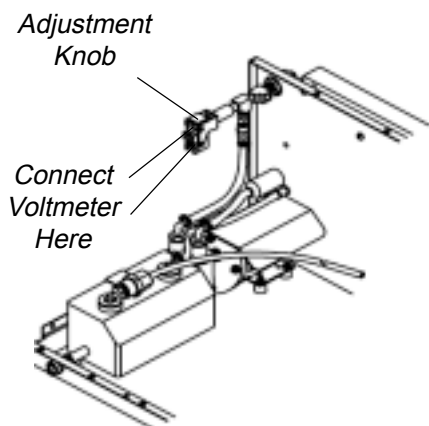

Figure 27: Pressure Switch
4. Connect an ohmmeter to the pressure switch terminals (see Figure 27).